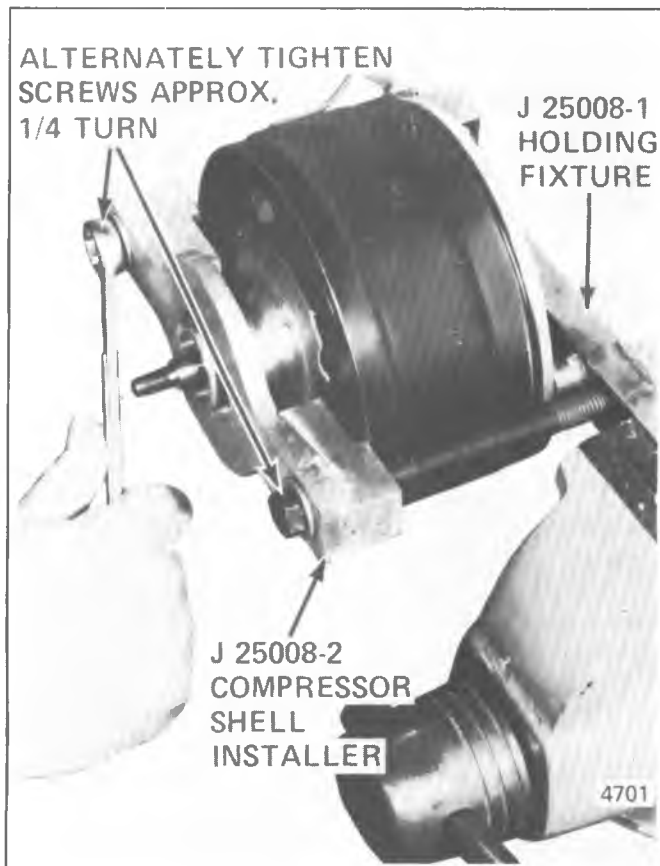

Figure 1D-110 Installing R-4 Shell
6. Push the compressor shell as close to the O-ring, Figure 1D-110, as possible by hand and check for equal alignment of the shell around the cylinder. Tighten the Fixture screws finger tight.